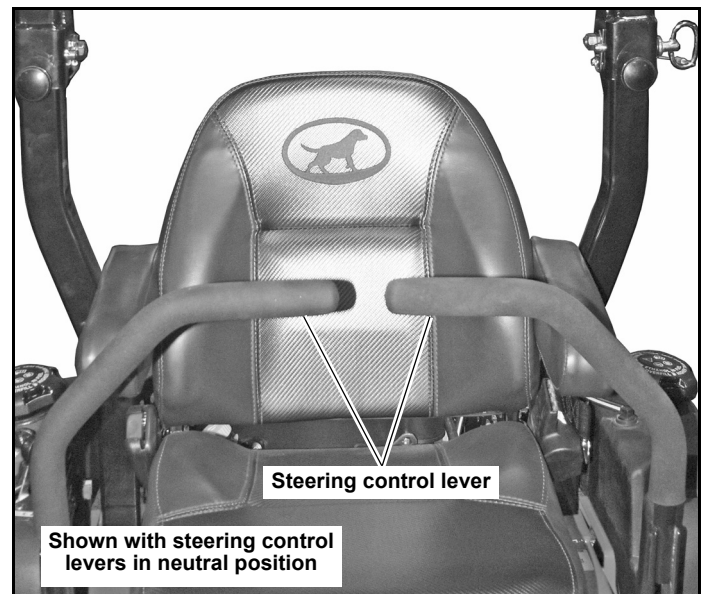
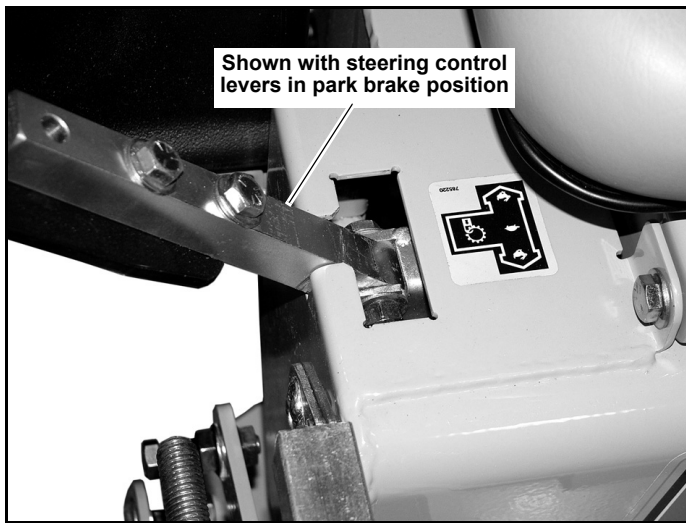

Figure 3-2
Figure 3-3
- A. **Steering control levers (Figure 3-2 & Figure 3-3)** — these levers control the mower's speed, direction, stopping, and park brake. These levers are used to steer, accelerate, decelerate and change direction. When the steering control levers are in the park brake position the mower will not move when the engine is on and the drive pumps are operating.